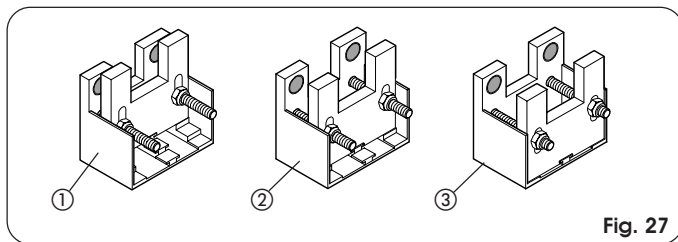

Fig. 27
- 1) Galvanised rack 30x6 module 4 (Fig. 27 - Ref. ①)
- 2) Galvanised rack 30x12 module 4 (Fig. 27 - Ref. ②)
- 3) Reinforced nylon rack 30x20 module 4 (Fig. 27 - Ref. ③)